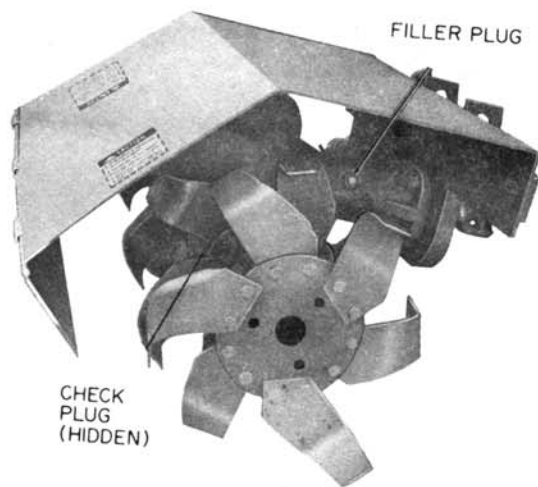

fig 2
1. Check oil level in geardrive. Remove check plug. Add oil (if necessary) to bring oil level up to plug with unit level, fig 2. Use API GL-6 SAE 90W gear lubricant.
1. Check oil level in gearbox before first use and then once a season. Check more often if signs of leakage are present. Visually inspect for leaks before each use. A repair should be made if leakage is substantial. Oil level must be up to check plug, fig 2; use SAE 90W API GL-6 gear lubricant.